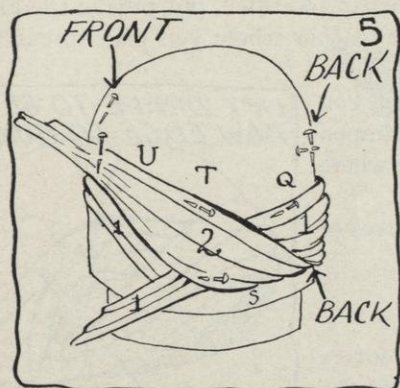

FIG. 5.
- o. **Turn your block slightly to your right, so direct right side faces you** (see point *T* in Figure 5).
- p. Now cross the second strip over the first on the pins where both ends of the first bias lap, then slant it diagonally upward until the upper folded edge of it laps over the tip at your left of the turban (see point *U* of Figure 5) and until the lower folded edge touches the edge of the foundation from direct back to right side (see point *S* of Figure 5) and pin in place.